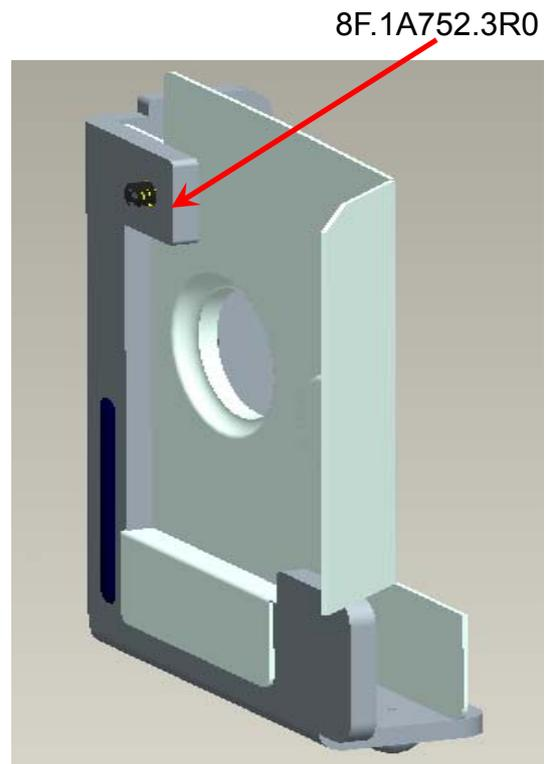

Fig. 2-2
2.2 Lock Screw well (Fig. 2-2).